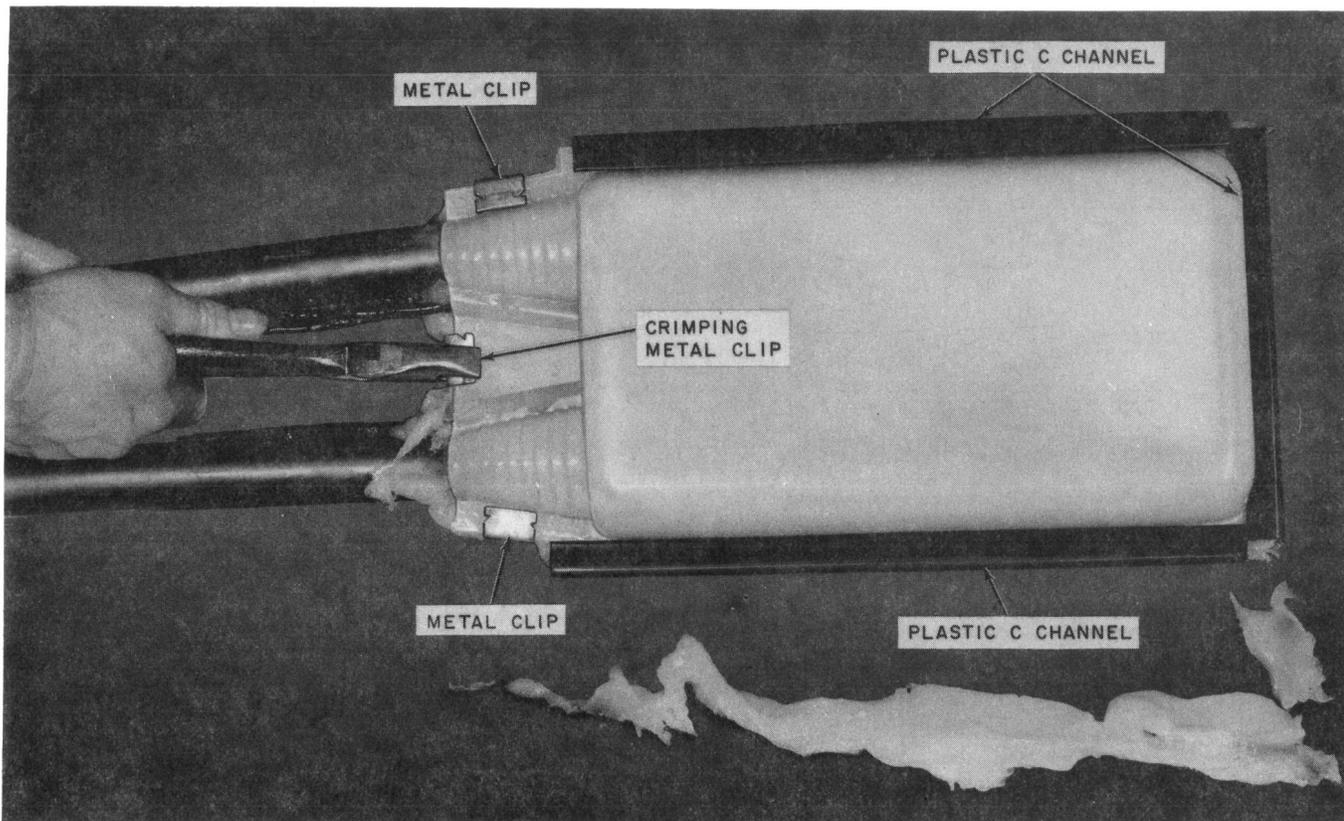

Fig. 28—Crimping Metal Clips
4.13 Slide plastic C channels on closure shell, then crimp metal clips at locations shown on Fig. 28.